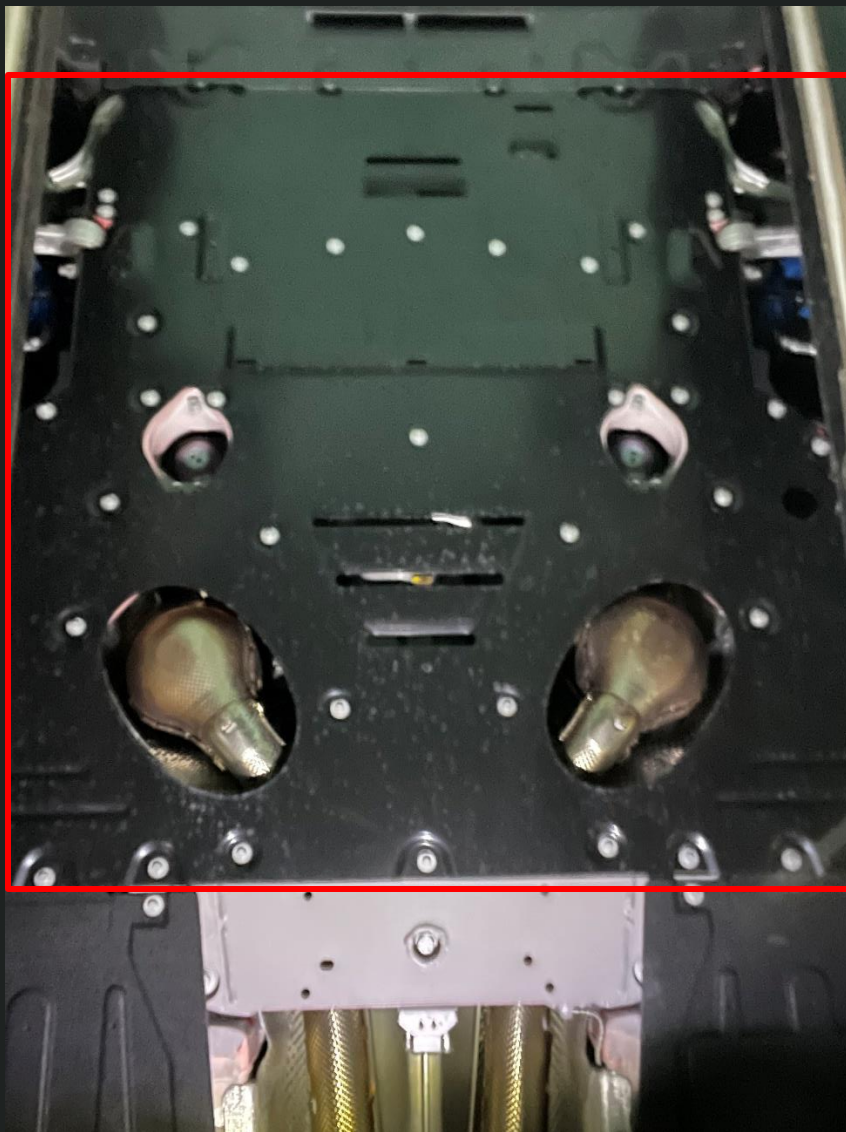

Figure 2
2. Remove the Front Lower Panel (Figure 2)